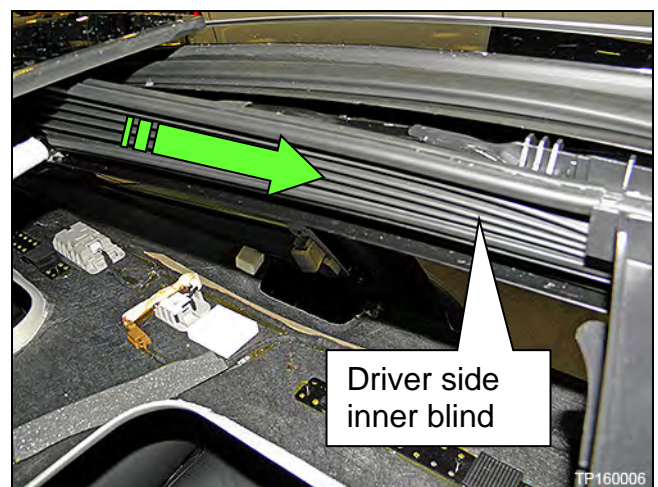

Figure 5
- d. Slide each inner blind toward the front of the vehicle and off of the Moonroof guides (Figure 5).
NOTE: Figure 5 is shown from inside the vehicle.